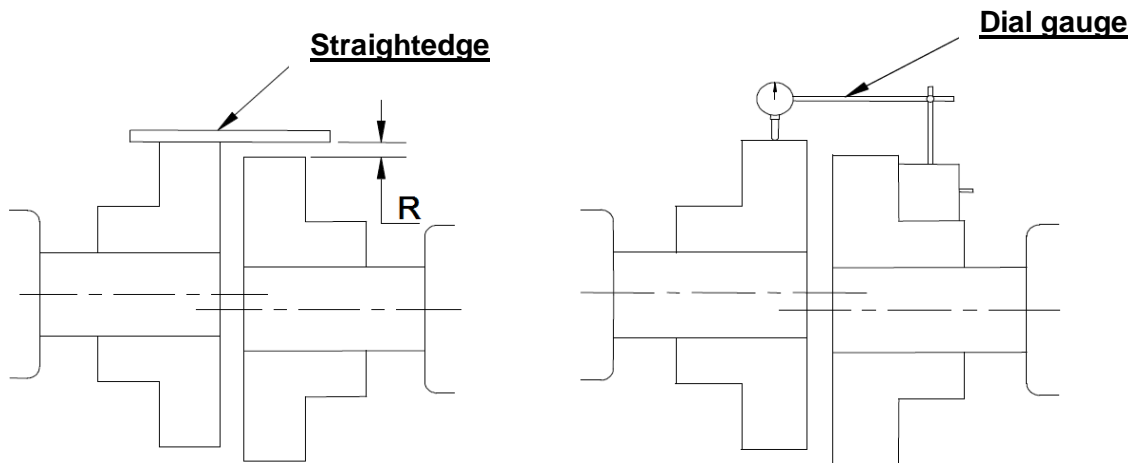

Figure 8.1: Measurement of the radial misalignment
Measure the radial misalignment by laying the straightedge on both hubs (item 1) and measuring the gap between the hubs with the help of a feeler gauge (see figure 8.1).